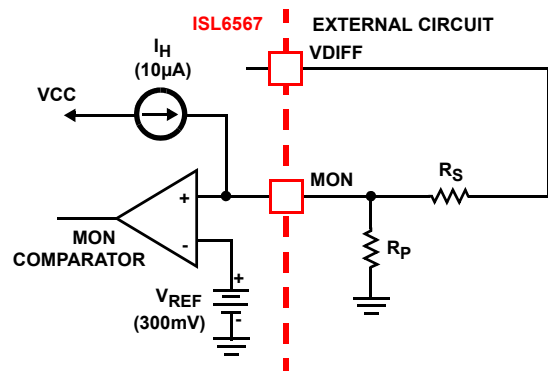

FIGURE 11. SETTING THE MONITORING THRESHOLD AND HYSTERESIS
While in external reference (ER) mode, the threshold sensitive MON pin can be used to control when the ISL6567 starts to monitor the output for PGOOD and OVP protection purposes. As shown in Figure 11, connect the MON pin to the voltage to be monitored via a resistor divider. An internal current source helps set a user-adjustable monitor threshold hysteresis. Choose resistor values according to desired hysteresis voltage, V_H , and desired rising threshold, V_T . Make note that, in these equations, V_{REF} refers to the reference of the MON comparator (300mV).